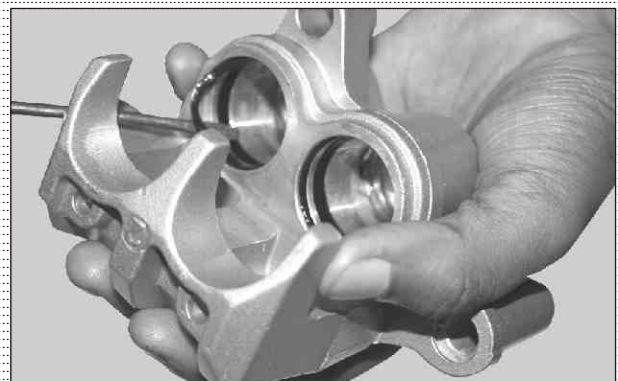

Fig. 6.22
- Remove dust seals 1 and 2 from the caliper bore carefully. (Fig. 6.22)